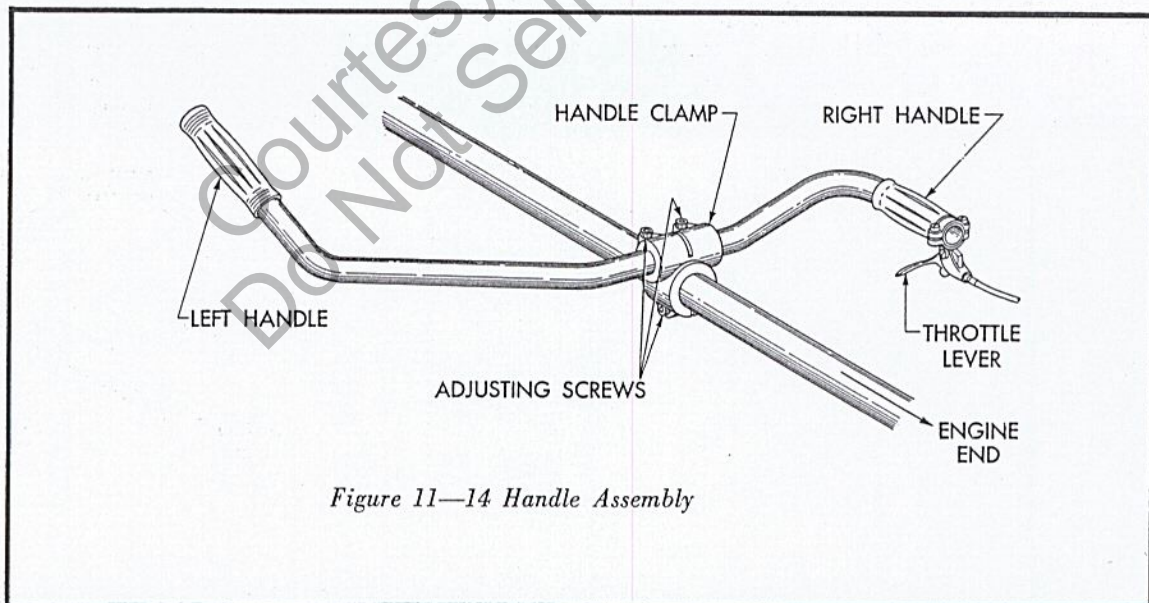

Figure 11-14 Handle Assembly
1. Loosen the two Allen screws and insert the two handles in the handle clamp on the aluminum tube. (See Figure 11-14.) The handle for the right hand is shorter than the left handle.
2. The throttle control assembly on the short handle bar is to be connected to the pistol grip of the engine. Remove the screws from the throttle support. Position the support on the pistol grip so the large trigger plate is directly under the saw trigger. (See Figure 11-14.) Replace and tighten the screws.
3. Loosen the adjusting screw in the cable adjusting collar. Set the trigger plate so it just touches the trigger on the saw, and secure the collar in this position by tightening the adjusting screw. (See Figure 11-14.)